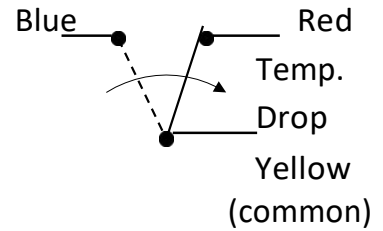

Figure 2
6. Referring to figure 2, make the electrical connections per job requirements and according to national and local electrical standards.